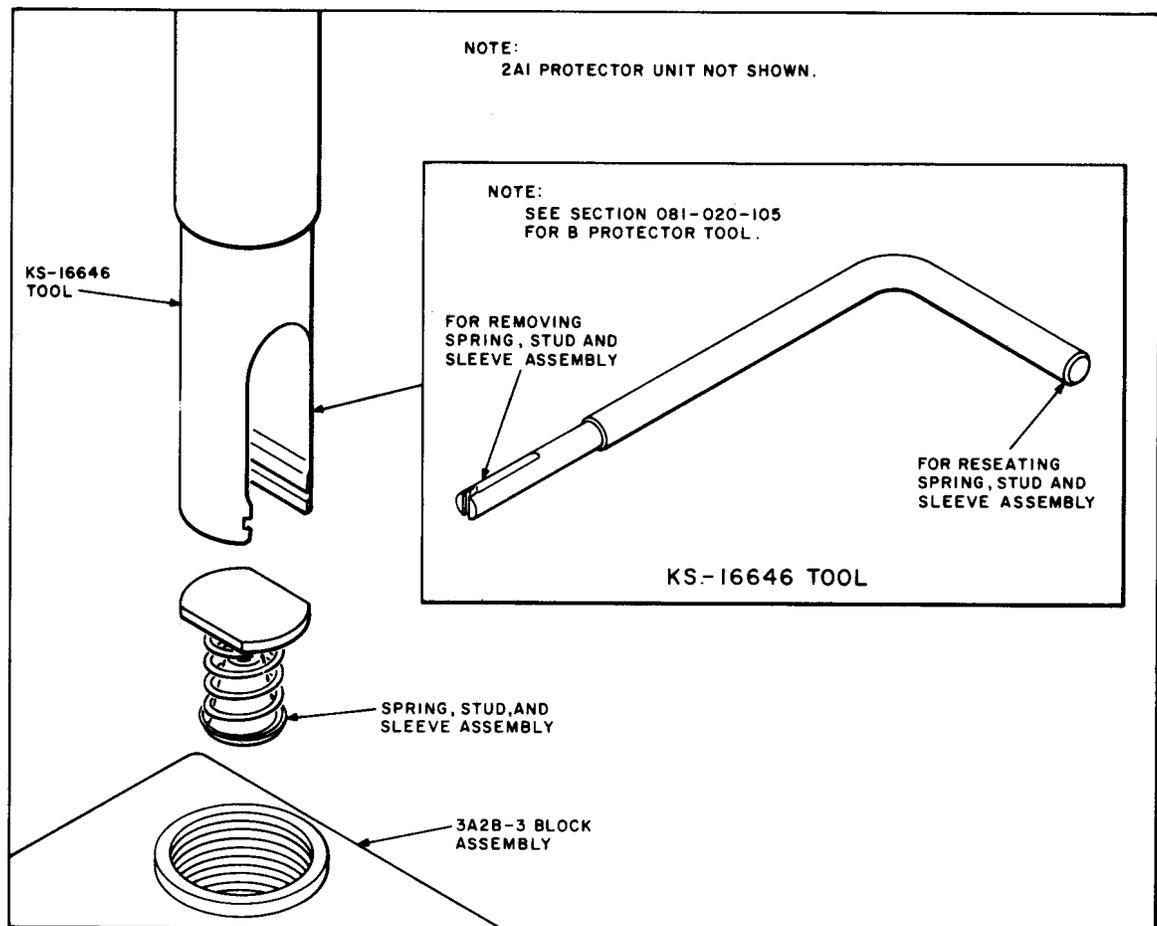

Fig. 14—Removing Assembly (Noncast Well)
5.08 The spring-tempered pronged end of either tool is inserted in the protector unit well with the prongs parallel to the flat sides of the top of the stud. When the tool engages the stud and sleeve assembly, it can be removed from the protector unit well with a slight pulling motion. See Fig. 14.